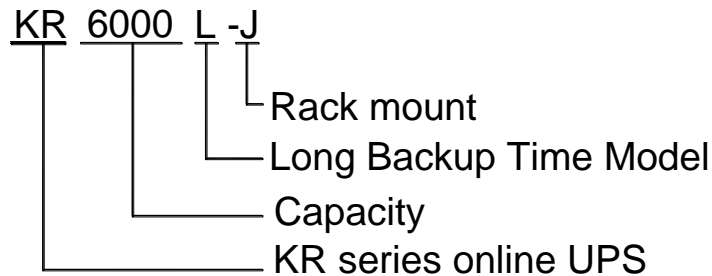

Fig.1-1 KR-J 6KVA model meaning
1. Model Meaning of UPS KR-J 6KVA is shown in Fig. 1-1.
As information shown in Fig.1-1, "KR" means the product is high-frequency UPS of Kehua KR Series. "6000" means that the output capacity is 6KVA. "1110" means that it is 1 phase in and 1 phase out, the output capacity is 10KVA. "L" means that the product is a long backup model. "-J" means that the product is a rack mount type.